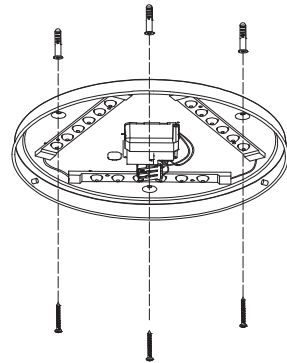

fig. 2
3. **fig. 2:** Hold bracket against the wall and mark drill points, drill the holes, insert the dowel. Use suitable material for wooden walls or lightweight walls. Pull the cable through the cable grommet. Put one sealing ring on each screw and fasten the base plate with the 3 screws. Watch out for a proper seal and the correct position of all seals, in order to ensure the splash water protection (IP44).